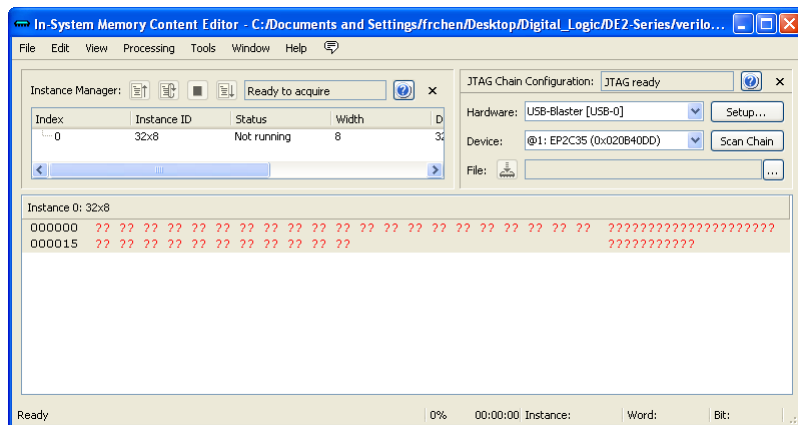
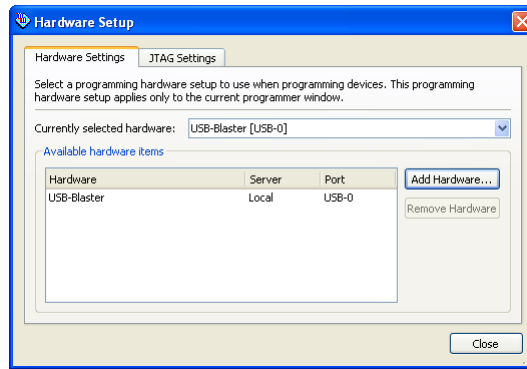

Figure 8: The In-System Memory Content Editor window.
Figure 9: The Hardware Setup window.
5. Select Tools > In-System Memory Content Editor, which opens the window in Figure 8. To specify the connection to your DE2 board click on the Setup button on the right side of the screen. In the window in Figure 9 select the USB-Blaster hardware, and then close the Hardware Setup dialog.